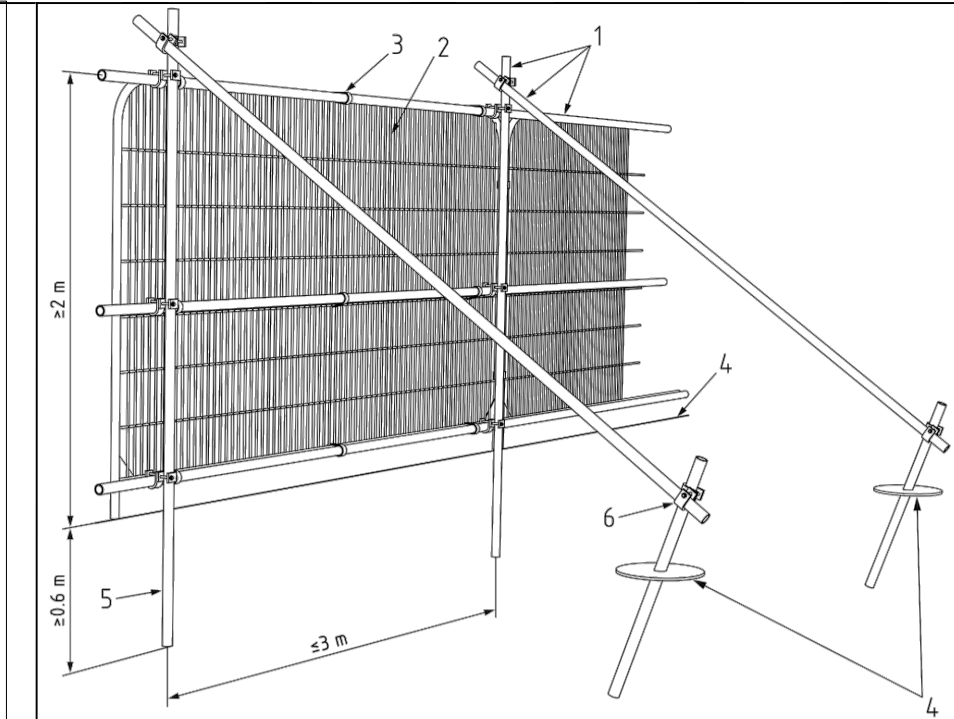

Fig 1: Default specification for protective barrier. Reproduced from BS5837:2012.
- PROTECTION FENCING Refer to detail (Fig 1 and Fig 2)